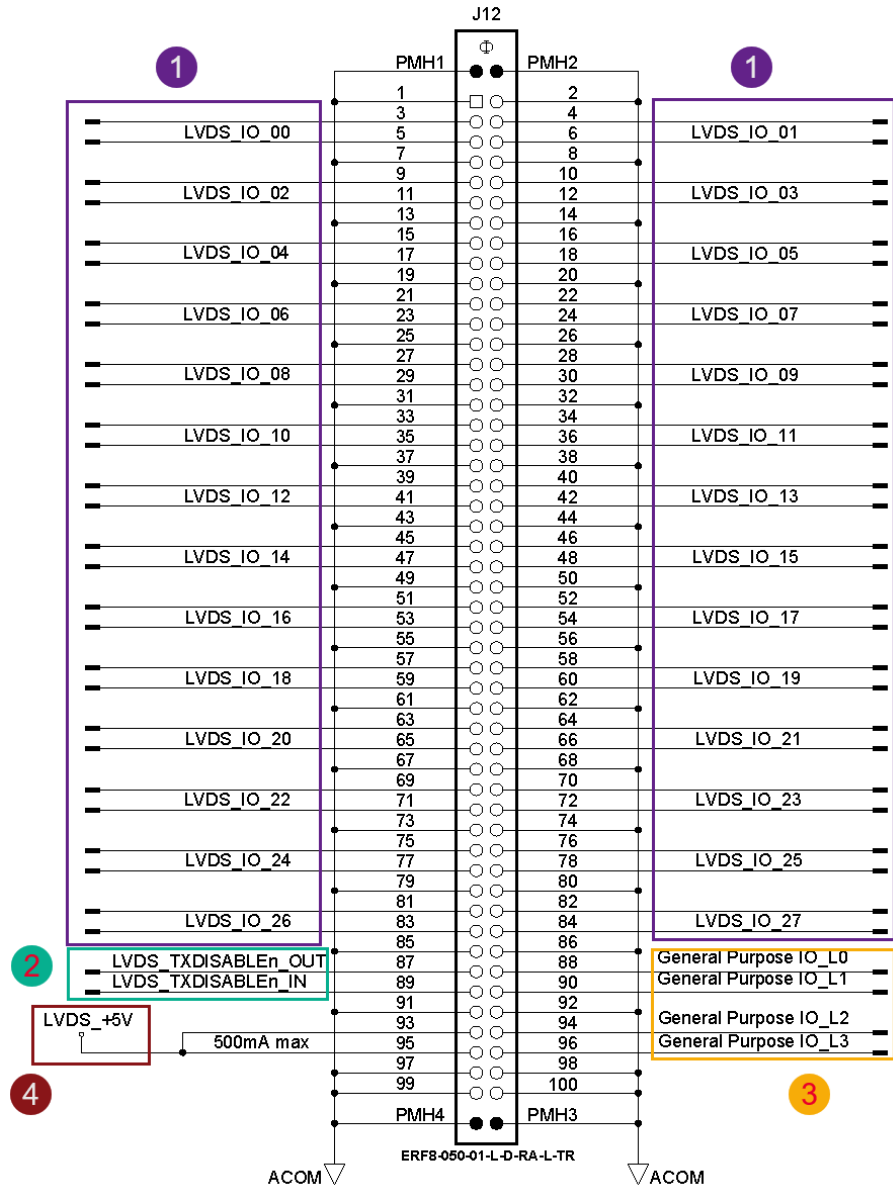
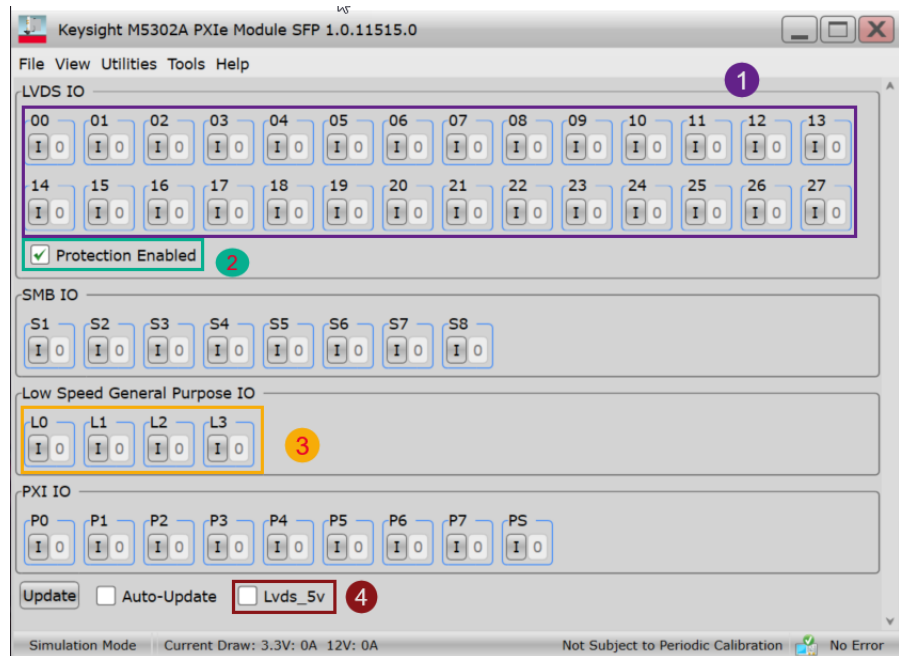

Figure 2 Pin-out diagram for the 100-pin LVDS connector on M5302A module
Figure 3 M5302x SFP controls for the 100-pin LVDS connector
**Figure 2** shows the pin-out (signal) diagram for the LVDS connector.
**Figure 3** displays the corresponding controls for the LVDS signal on the M5302x SFP.
The LVDS\_TXDISABLEn\_OUT / LVDS\_TXDISABLEn\_IN controls in Figure 2 provide M5302A module output protection by allowing control over the transmission of LVDS signals in and out of the module. These are controlled by the “DifferentialChannels.OutputSafetyState()” API in the M5302x software or the **Protection Enabled** check box in the M5302x SFP, as shown in Figure 3. By default, the LVDS\_TXDISABLEn\_OUT is driven high anytime the module is powered on and the FPGA is configured. The LVDS\_TXDISABLEn\_IN line must be manually driven high before the M5302A module attempts to drive any of the LVDS channels that are configured as outputs unless you override this condition by setting the DifferentialChannels.OutputSafetyState() API to ‘Disabled’.